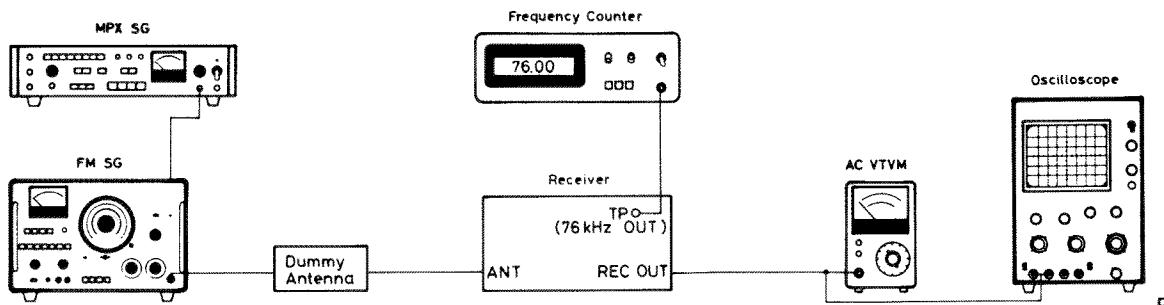
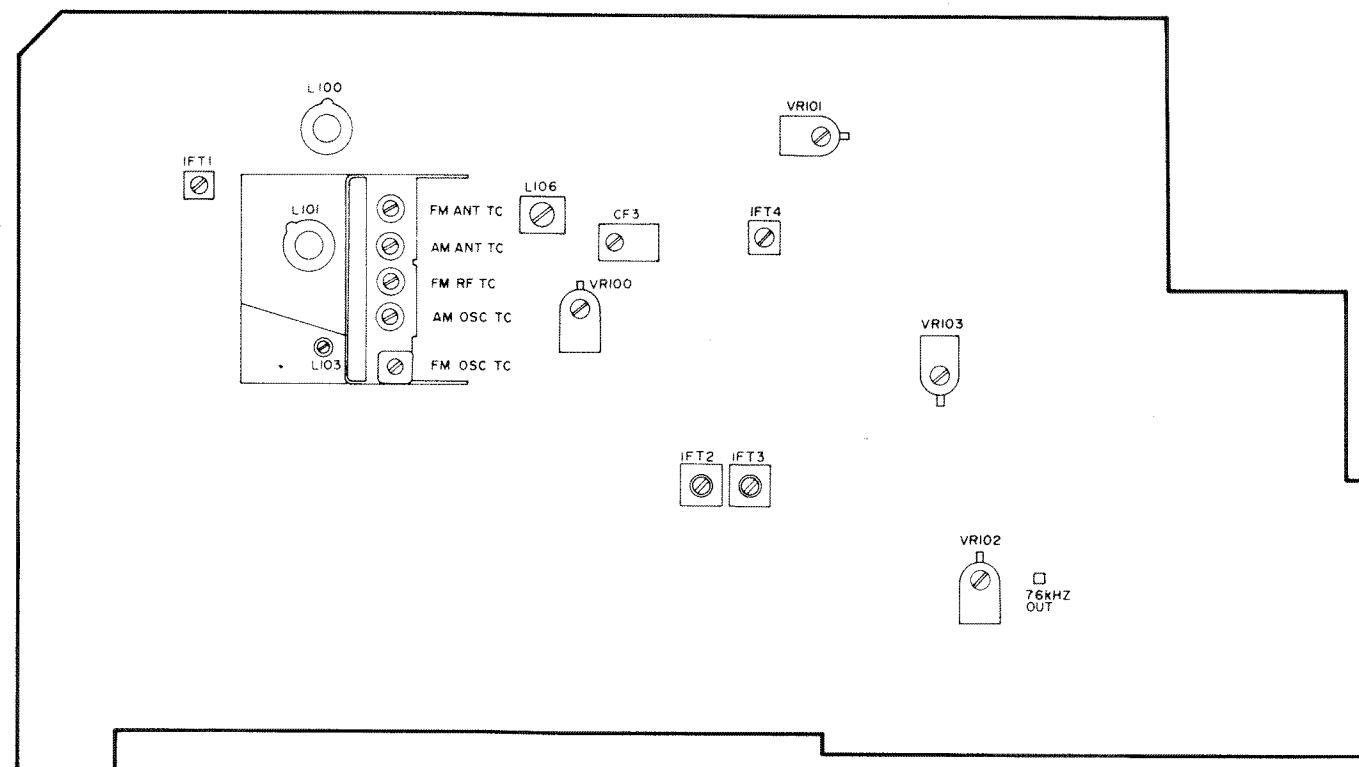

Fig. 8-3
Fig. 8-5
Connect the relevant measuring instruments up to the receiver as shown in Fig. 8-2. Refer to Fig. 8-5 for the layout of parts to be adjusted.
Connect the measuring instruments up to the receiver as shown in Fig. 8-3. Refer to Fig. 8-5 for the layout of the parts to be adjusted.
- (1) Connect the measuring instruments up to the receiver as shown in Fig. 8-4-1. Refer to Fig. 8-5 for the layout of the parts to be adjusted.
- (2) Set the AM SG to 515 kHz with a small amount of noise present in the tuner output waveform.
- (3) Turn the receiver Tuning knob full around counter clockwise (thereby shifting the dial indicator below the 540 kHz position), and adjust the oscillator coil L106 for reception of 515 kHz.
- (4) Set the AM SG to 1,650 kHz, and turn the receiver Tuning knob full around clockwise (until the dial indicator stops at a position above 1,600 kHz). Then adjust the oscillator trimmer capacitor (AM OSC TC) for reception of 1,650 kHz.
- (5) Repeat steps (2) to (4) above.